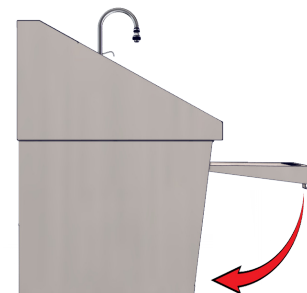

Fig. 28: Door should rotate freely on hinges
5. The knee panel door should rotate freely on its hinges. Rotate the door back down on its bottom latch to close it (Fig. 28).